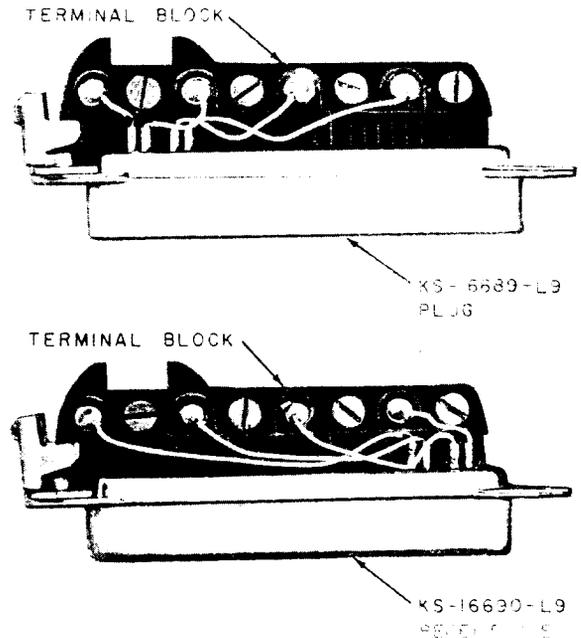

Fig. 12—153C and 153D Adapters
E. 153C and 153D Adapters (Fig. 12)